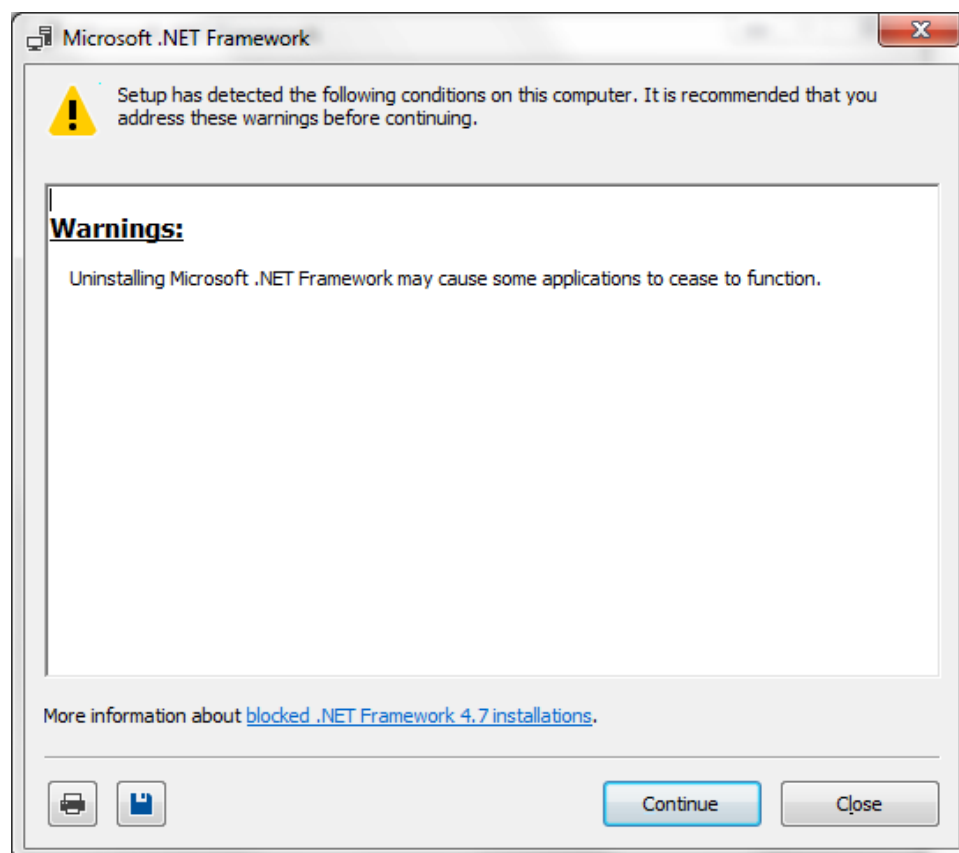

Figure III.1.10: Confirm uninstallation of Microsoft .NET 4.7.
- Click on "Continue" (see Figure III.1.10)